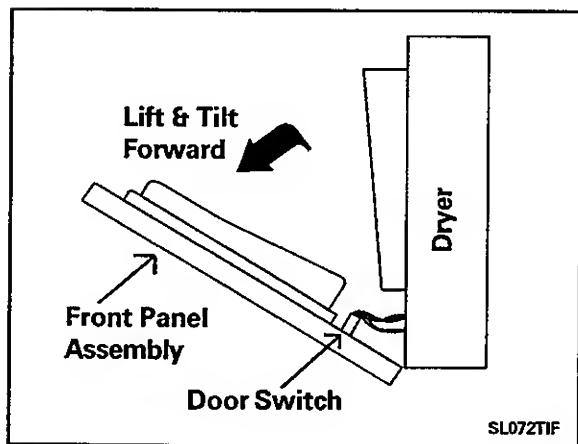

Figure 9-4
4. Remove the two 5/16" hex head screws located in the top right and left front corners of the front panel (*Figure 9-4*).
5. Tip the top of the front panel forward and slightly lift the front panel at the same time. Then remove the wires from the door switch (*Figure 9-4*).